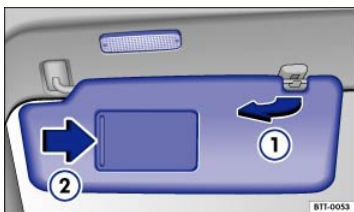

Fig. 80 Sun visor.
- Lift it out of the retaining clip ⇒ Fig. 80① and swivel it over toward the door.
A vanity mirror is behind a cover in the sun visor. A light may come on when you slide the cover open ⇒ Fig. 80②.